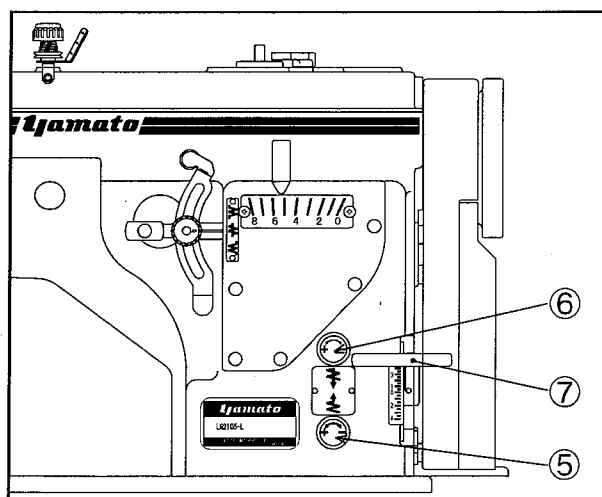

Fig.23
To adjust the stitch length at normal feed, turn the adjusting screw ⑤ in Fig.23.
- To shorten the stitch length, turn the screw ⑤ clockwise.
- To lengthen the stitch length, turn the screw ⑤ counterclockwise.
To adjust the stitch length at reverse feed, turn the adjusting screw ⑥ in Fig.23.
- To shorten the stitch length, turn the screw ⑥ clockwise.
- To lengthen the stitch length, turn the screw ⑥ counterclockwise.